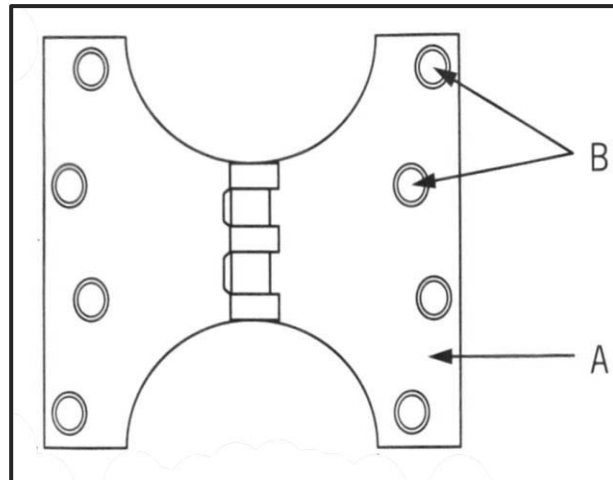

FIGURE 5.4
5.4 FIGURE 5.4 below shows a hinge. Study the drawing and answer the questions that follow.
- 5.4.3 Explain the purpose of the type of hinge in FIGURE 5.4. (2)